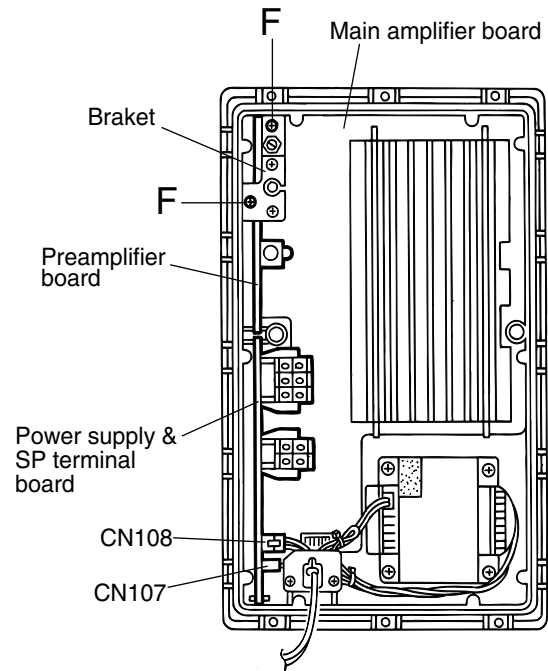

Fig.4
■ Removing the preamplifier board (See Figs.4 to 6)
■ Removing the power supply & SP terminal board (See Figs.4 and 5)